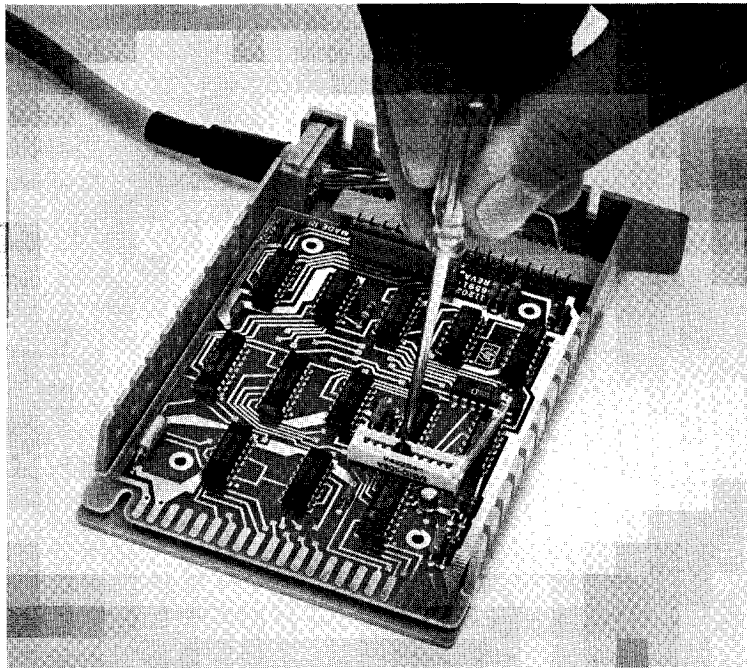

Figure 3. Setting the Select Code (option 10, 20, 21)
3. Raise the hinged cover on the select code switch (see Figure 3). Using a small flat-blade screwdriver, carefully rotate the selector tab until it is positioned at the desired select code number. Numbers are printed on the top cover of the switch. Before closing the cover, be sure that the slot in the selector tab is at a right angle to the length of the switch.